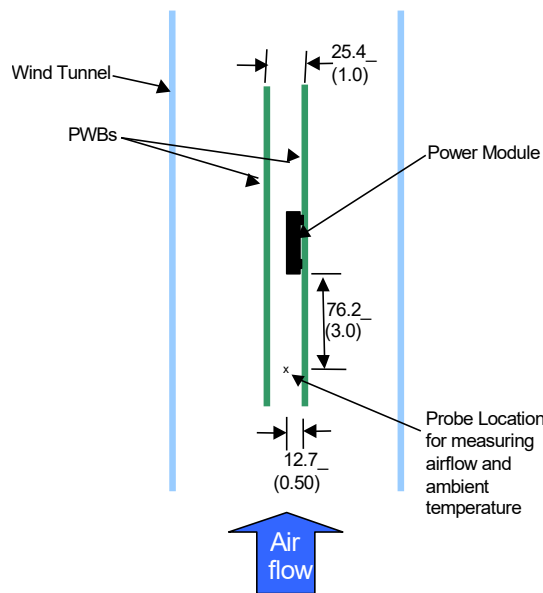
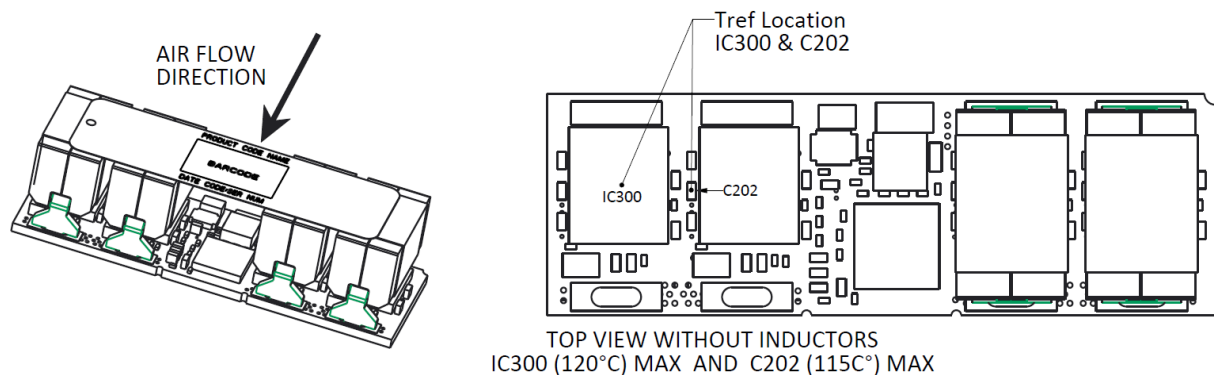

Figure 28. Thermal Test Setup.
Figure 29. Preferred airflow direction and the location of the thermal reference points
Power modules operate in a variety of thermal environments; however, sufficient cooling should always be provided to help ensure reliable operation. Considerations include ambient temperature, airflow, module power dissipation, and the need for increased reliability. A reduction in the operating temperature of the module will result in an increase in reliability. The thermal data presented here is based on physical measurements taken in a wind tunnel. The test set-up is shown in Figure 28. The preferred airflow direction for cooling the module and the thermal reference points, Tref used in the specifications are shown in Figure 29. For reliable operation the temperatures at these points should not exceed 120°C (IC300) and 115°C (C202). The output power of the module should not exceed the rated power of the module ( $V_{o,set} \times I_{o,max}$ ). Please refer to the Application Note “Thermal Characterization Process for Open-Frame Board-Mounted Power Modules” for a detailed discussion of thermal aspects including maximum device temperatures. Increased airflow over the module enhances the heat transfer via convection. The thermal derating of figures 2, 8, 14 and 20 show the maximum output current that can be delivered by each module in the indicated orientation without exceeding the maximum Tref temperature versus local ambient temperature (TA) for several air flow conditions. The thermal derating curves were generated using a 12 layer evaluation board with 3oz copper in inner layers and 2 oz in outer layers.